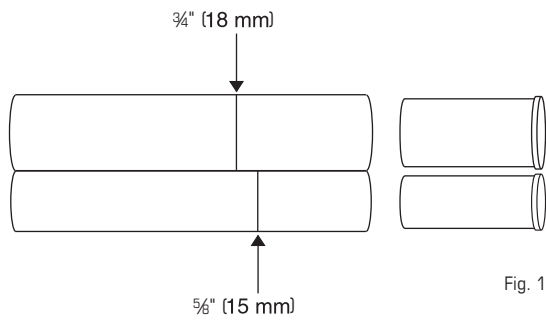

Fig. 13
4. Lay each tube from the Diverter on the diagram. Use a pen to mark a line across them at the arrows. Push tubing supports into their respective tubes, until they are flush with the end of the tubes (Fig. 13).